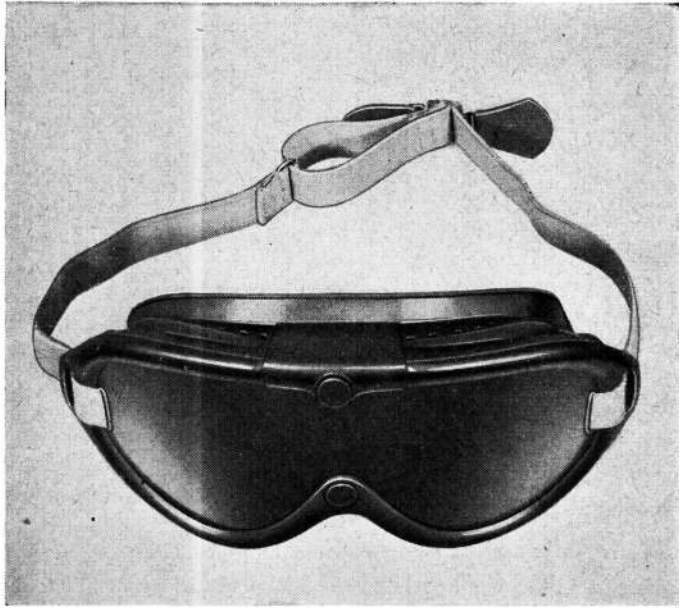

Fig. 5. Instrument flying practice goggles, Mk. 2
16. These goggles (fig. 5) consist of a facepiece (Stores Ref. 22C/1136) and a filter window. A set of windows of varying densities is available as follows:—